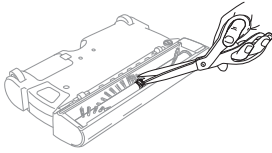

Fig. 8
- 3 Remove all hair, string or fibers wrapped around the brush bar. Using a pair of scissors, carefully cut along the raised guide to remove anything wound around the brush bar. Avoid damaging or cutting the bristles. (Fig. 8)